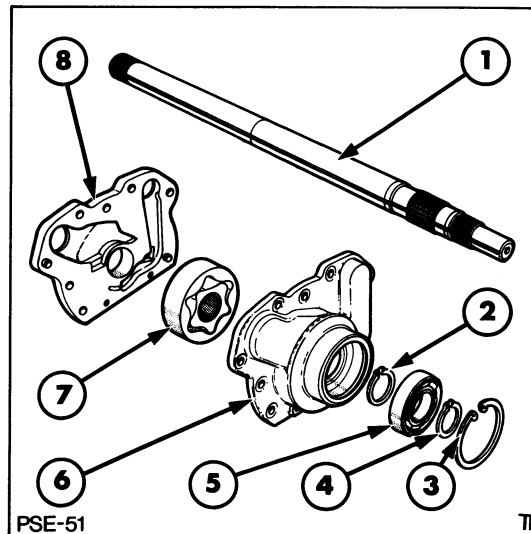

Figure 51
5. Remove the 4 bolts retaining the two half housings and separate the pump rotor from the housings, an exploded view is shown in Figure 51.